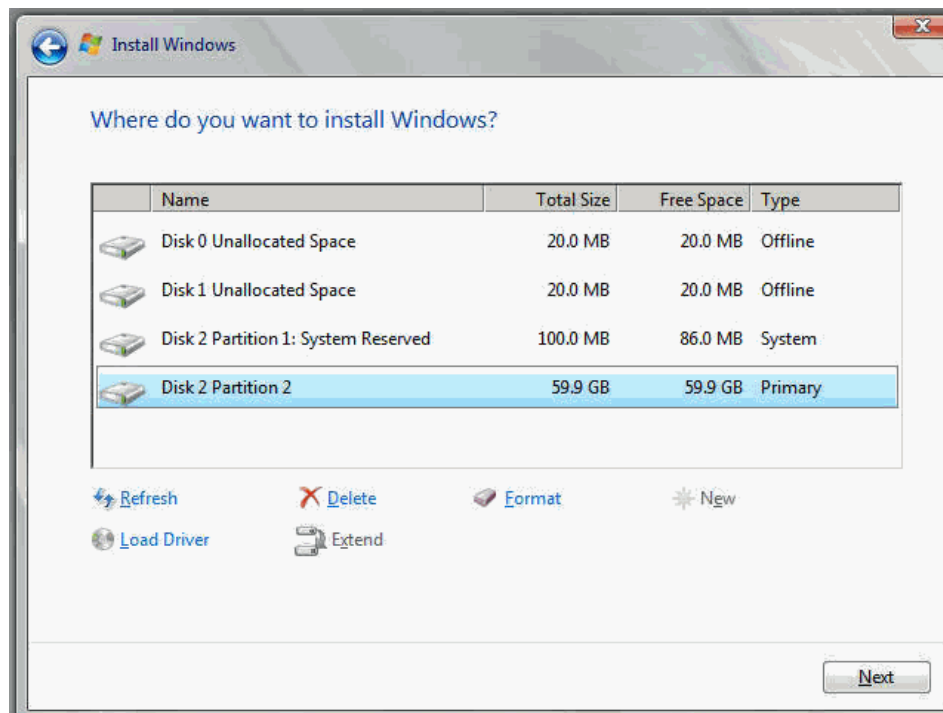

Figure 2-83 Creating the new partition
- The new partition is created as shown in Figure 2-83. After creating this partition, follow the default OS installation procedure and complete the installation.